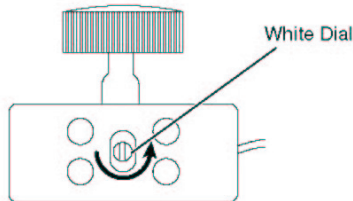

Figure 54 - Location of White Dial on Speed Control
18. If the blower does not turn on, turn the fireplace off and allow cooling. Unplug the blower. Using a jeweler's style screwdriver, turn the white dial on the side of the variable speed control 1/8 turn counterclockwise. Figure 54. This will allow the blower motor to start at the low speed setting as the fireplace cycles on and off. Retest the blower.